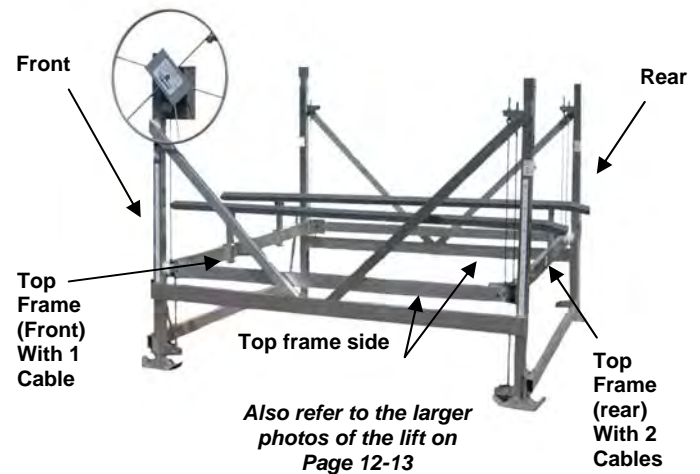
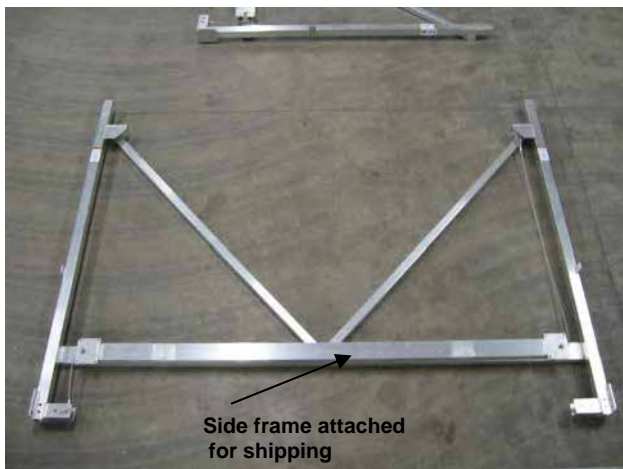
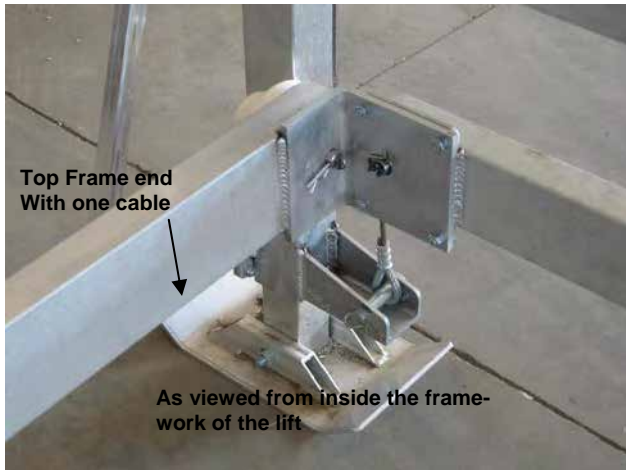

FIG. 8
FIG. 10
FIG. 12
1. Locate and roughly place the 2 top frame pieces in place. See FIG. 8.
2. Note that the top frame sides are identical. Place one on each side of the frame. See FIG. 8. The top frame sides are strapped to sides with cables already strung. See FIG. 10.
3. Place the top frame end with the one cable coming out of each end on the ground inside the frame on the winch end of the lift. (Known as the front of the lift.) See FIG. 8.
4. Note: Top of frame with 2 cables must be mounted with the eye bolts going up and cable is under pulley. See Fig. 12 & 13. Place the top frame end with two cables coming out of each end on the ground inside the frame on the opposite end of the lift (away from the winch.) Known as back or rear of the lift. See FIG. 8.